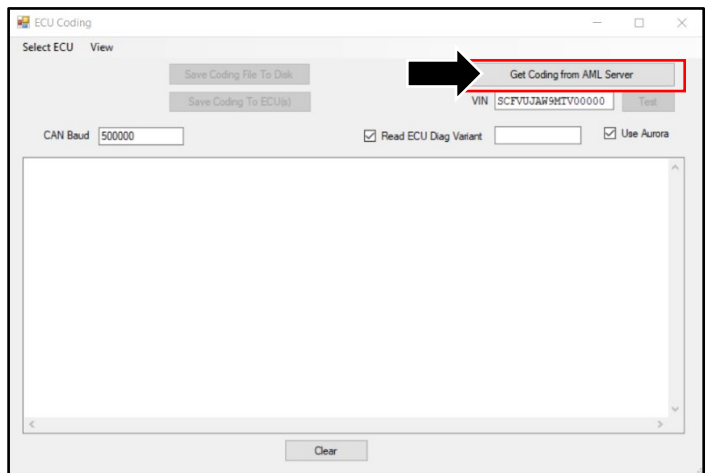

Figure 3
- 6. Select "Get coding from AML Server" (refer to Figure 3).